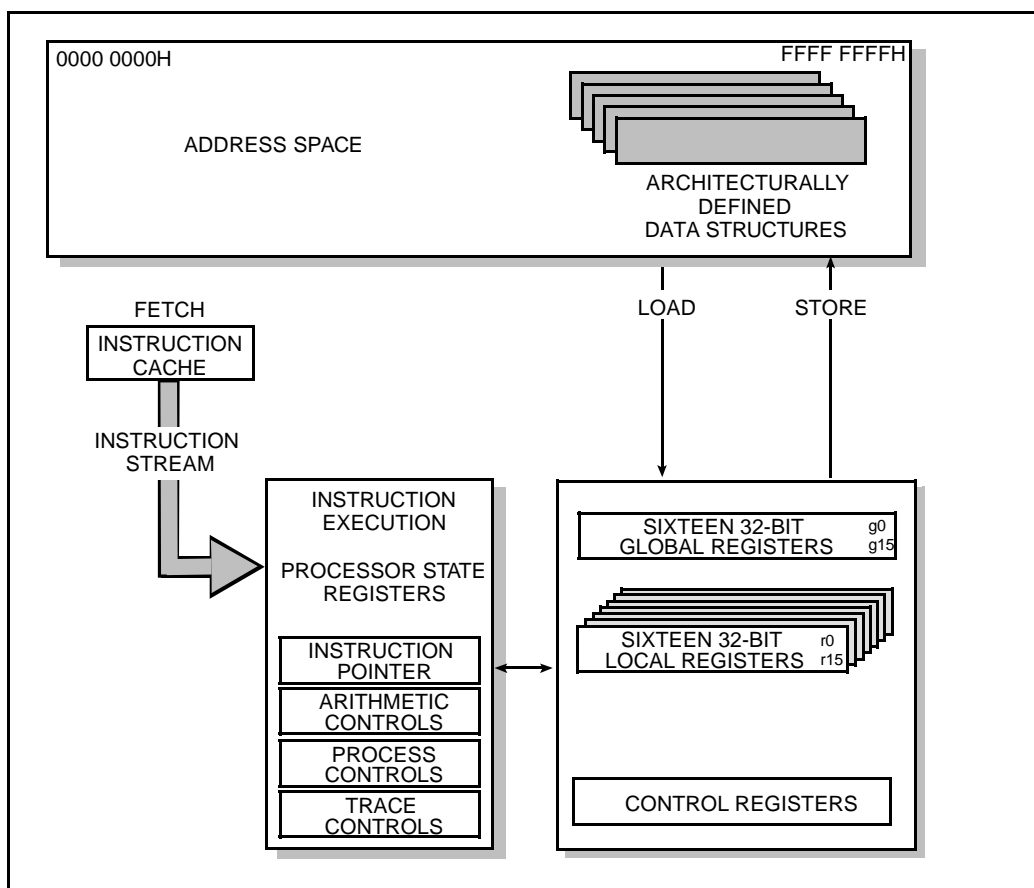

Figure 2. 80960SA Programming Environment
1. **Large Register Set.** Having a large number of registers reduces the number of times that a processor needs to access memory. Modern compilers can take advantage of this feature to optimize execution speed. For maximum flexibility, the 80960SA provides thirty-two 32-bit registers. (See Figure 2.)